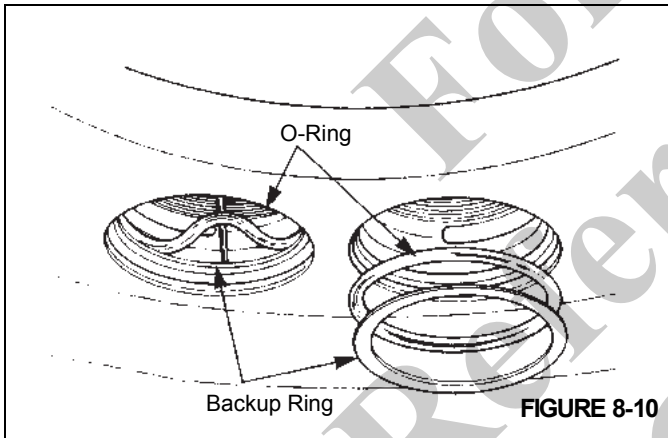

FIGURE 8-10
10. Remove and discard the O-ring and the backup rings (Figure 8-10).